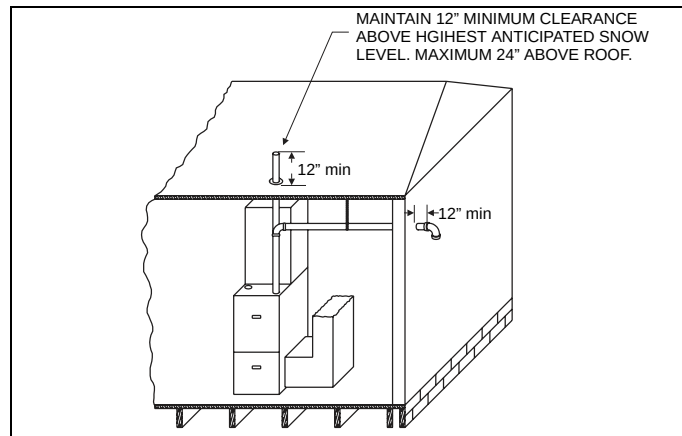
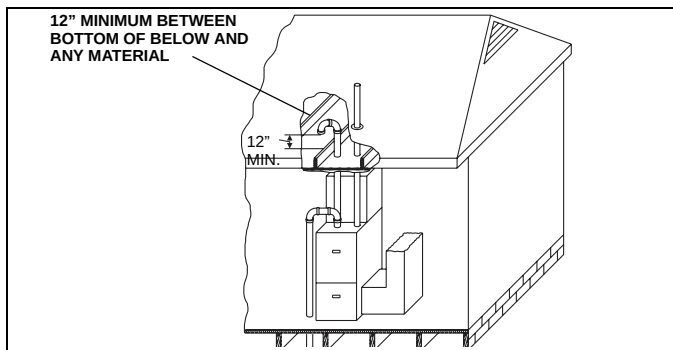

FIGURE 17: Termination Configuration - 1 Pipe
FIGURE 25: Attic and Crawl Space Combustion Air Termination
The combustion air side of the single pipe configuration shown in Figure 25 is referred to in these instructions as ambient combustion air supply. Follow the instructions for ambient combustion air installations, paying particular attention to the section on air source from inside the building. The vent for a single pipe system must be installed as specified in the venting section of these instructions with the vent terminating as shown in Figures 17 or 21. Each furnace must have a separate vent pipe. Under NO circumstances can the two vent pipe be tied together.
3. **VENTILATED COMBUSTION AIR:** Combustion air is supplied through a PVC or ABS pipe that is connected to the PVC coupling attached to the burner box and is terminated in a ventilated attic or crawl space. The combustion air and the vent pipes are not terminated in the same atmospheric zone. Refer to Figure 25 for vent and for attic termination. Only the combustion air intake may terminate in the attic. The vent must terminate outside.
Refer to Figure 25 for required attic termination for the combustion air intake pipe. For attic termination, use two 90 elbows with the open end in a downward position. Be sure to maintain 12" (30 cm) clearance above any insulation, flooring or other material.